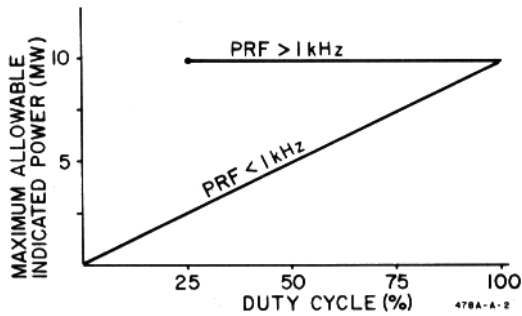

Figure 2. Maximum Power Meter Readings vs Duty Cycle for Pulses Longer than 250 μ s
15. For pulses longer than 250 μ s, the peak limitation can be expressed in terms of PRF: 10 mW for a PRF below 1 kHz, 40 mW for a PRF 1 kHz or above, provided 30 mW average is not exceeded. In Figure 2, the peak power limit is translated into power-meter reading versus duty cycle.